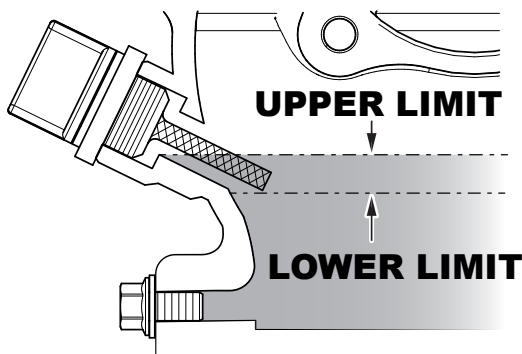

Figure 20. Engine Oil Level
4. If the oil level (Figure 20) is low, fill to the edge of the oil filler hole with the recommended oil type listed in Table 8. Refer to Table 3 or Table 4 for maximum engine oil capacity.